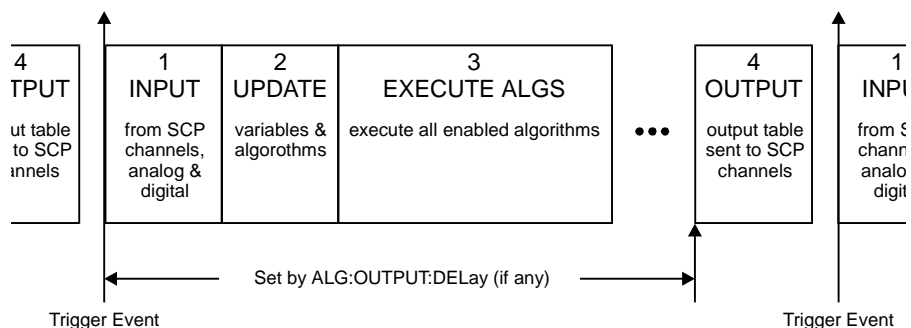

Figure 6-1. Updating Variables and Algorithms
- The algorithm output statements (e.g. O115 = Out_val) DO NOT program outputs when they are executed. Instead, these statements write to an intermediate Output Channel Buffer which is read and used for output AFTER all algorithms have executed AND the algorithm output delay has expired (see Figure 6-1). Also note that not all outputs will occur at the same time but will take approximately 10usec per channel to write.
- Variables and algorithms can be accepted during Phase 1-INPUT or Phase 2-UPDATE in Figure 6-1 when INIT is active. All writes to variables and algorithms occur to their buffered elements upon receipt. However, these changes do not take effect until the ALG:UPD:IMM command is processed at the beginning of the UPDATE phase. The update command can be received at any time prior to the UPDATE phase and will be the last command accepted. Note that the ALG:UPD:WINDow command specifies the maximum number of updates to do. If no update command is pending when entering the UPDATE phase, then this time is dedicated to receiving more changes from the system.
ALGORITHM:UPDATE:CHANNEL <dig_chan> This command is used to update variables, algorithms, ALG:SCAN:RATIO, and ALG:STATE changes when the specified digital input level changes state. When the ALG:UPD:CHAN command is executed, the current state of the digital input specified is saved. The update will be performed at the next update phase (UPDATE in Figure 6-1), following the channel's change of digital state. This command is useful to synchronize multiple HP E1415s when you want all variable updates to be processed at the same time.
- The duration of the level change to the designated bit or channel **MUST** be at least the length of time between scan triggers. Variable and algorithm changes can be accepted during the INPUT or UPDATE phases (Figure 6-1) when INIT is active. All writes to variables and algorithms occur to their buffered elements upon receipt. However, these changes do not take effect until the ALG:UPD:CHAN command is processed at the beginning of the UPDATE phase. Note that the ALG:UPD:WINDOW command specifies the maximum number of updates to do. If no update command is pending when entering the UPDATE phase, then this time is dedicated to receiving more changes from the system.